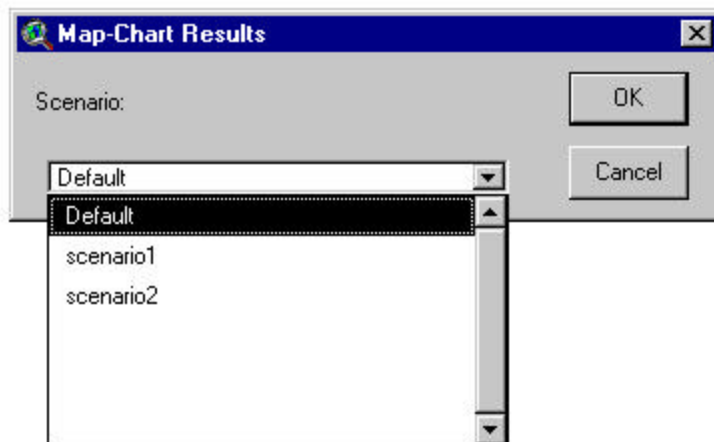

Figure 13.51
2. If a calibration scenario has been created (see Section 13.3 previous section), and the respective simulation output imported into ArcView (see Section 13.2), a prompt box is displayed (Figure 13.51).